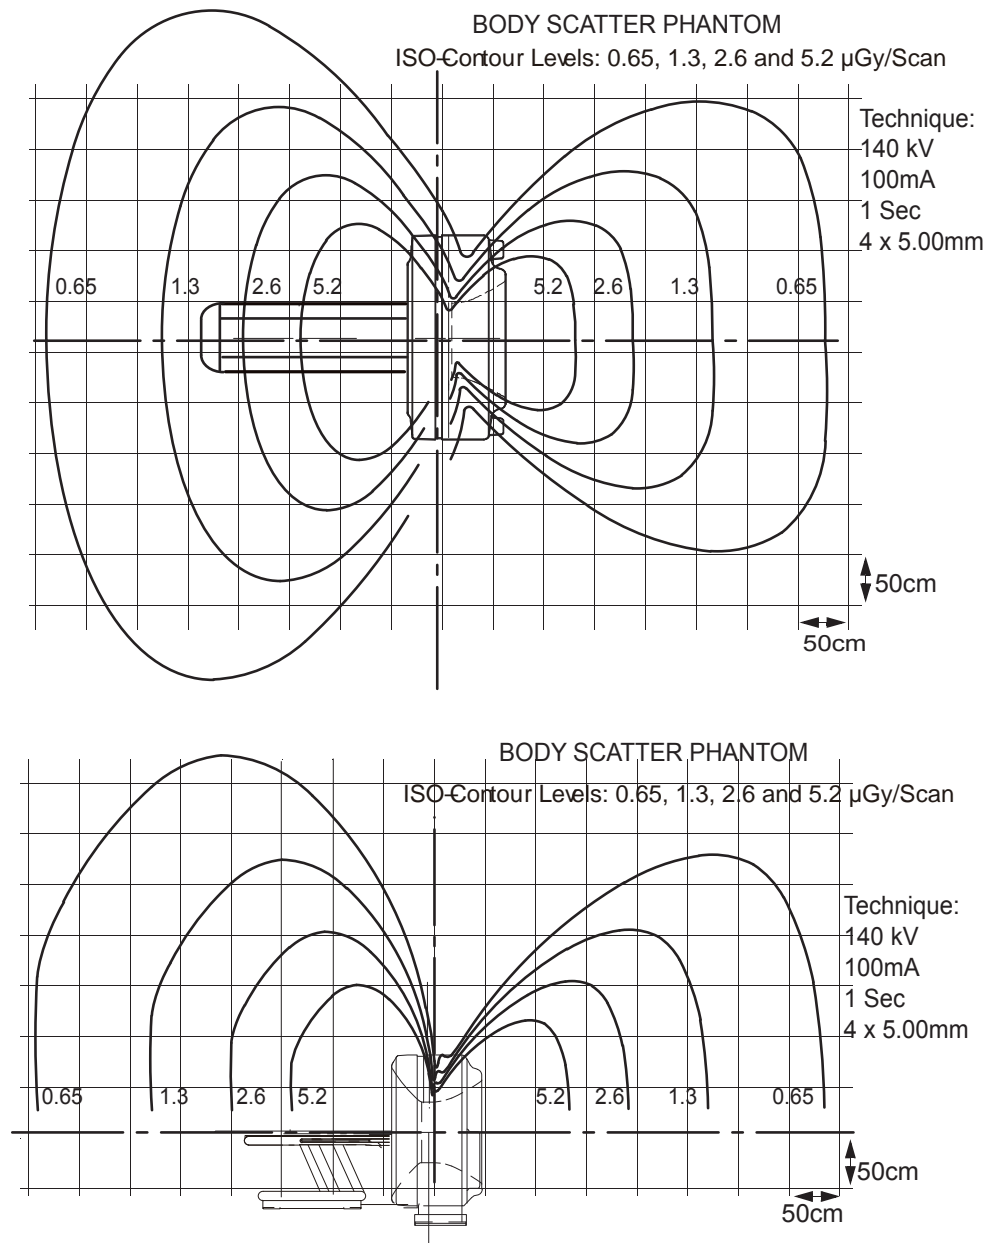

Figure 4-25 Typical Scatter Survey (Body Filter)
- Scatter radiation levels within the scanning room (see Figure 4-25)